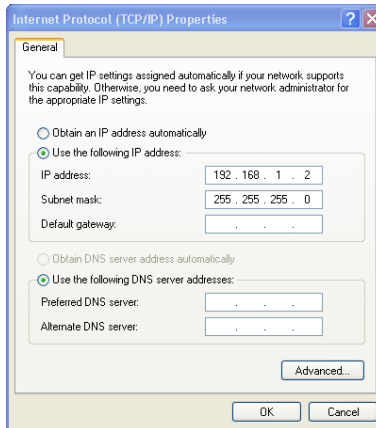

Figure 5: Internet Protocol (TCP/IP) Properties Window
7. Select **Use the following IP Address**, and fill in the details as shown in Figure 5.